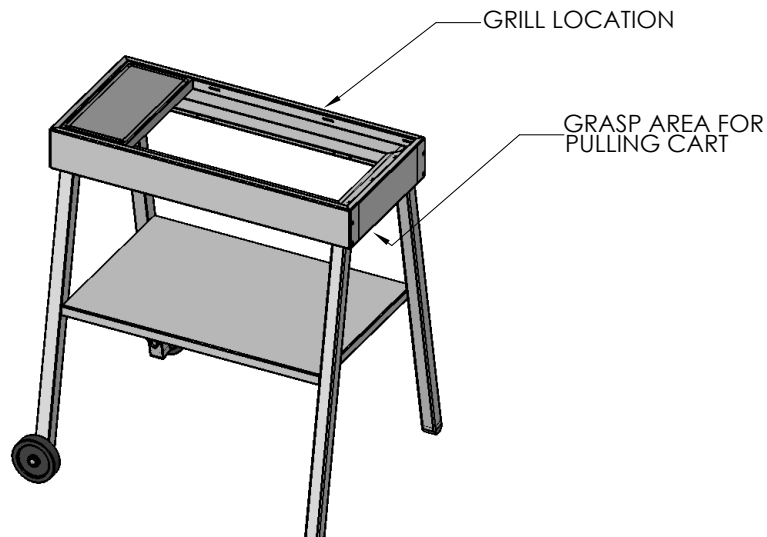

FIGURE 1 - KENYON ALL SEASONS™ GRILL CART
- a. Place your KENYON All Seasons grill into the cart top toward the side without the wheels, routing the GFCI electrical cord through the cart top opening and out toward the rear of the cart. Refer to figure 1. Maintain the grill location to the side of the cart without wheels so that the cart will be stable during movement.